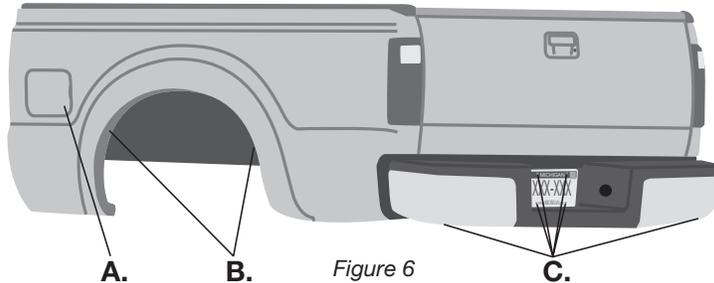

Figure 6
3. Select a location for the Schrader valve, ensuring that the valve will be protected and accessible with an air hose (Fig. 6). Determine and cut adequate length of air line to reach from the tee to the Schrader valve or from the air springs to the valve if using a dual-path installation.